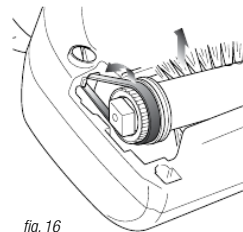

fig. 16
- 2 Slip the black belt off of the white gear and lift out the brush roll. (fig. 16)